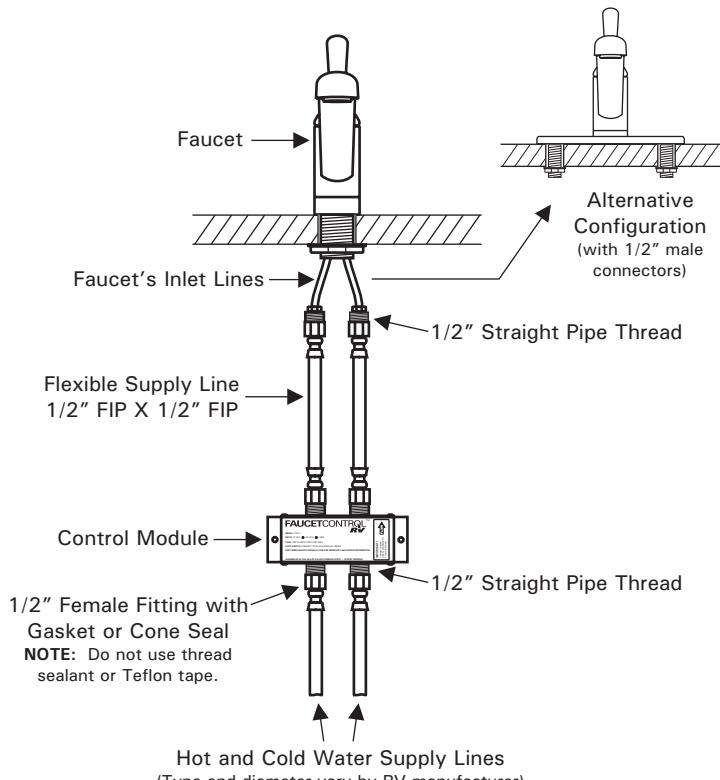
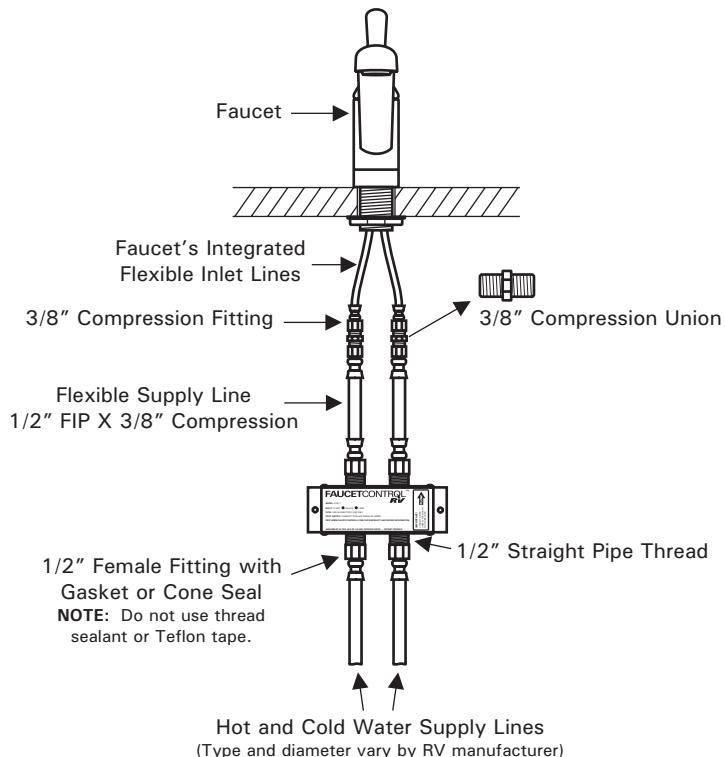

Figure 1A - Faucet with 1/2" Male Connectors
Figure 1B - Faucet with 3/8" Female Compression Connectors
Faucets can be divided into two general categories based on the size and type of the faucet inlet fittings. Use the following descriptions together with Figures 1A and 1B to determine the connection type:
- ① Turn the water pump switch off, disconnect any outside water sources, and move the faucet handle(s) to the open position.
- ② Place a large towel under the work area to absorb any dripping water during installation process.
- ③ Install the water connections according to Figure 1A or Figure 1B, as applicable.
- ④ Turn the water pump switch on (or connect to an external water source) and check for leaks. Recheck for leaks after the foot pedal installation is complete.